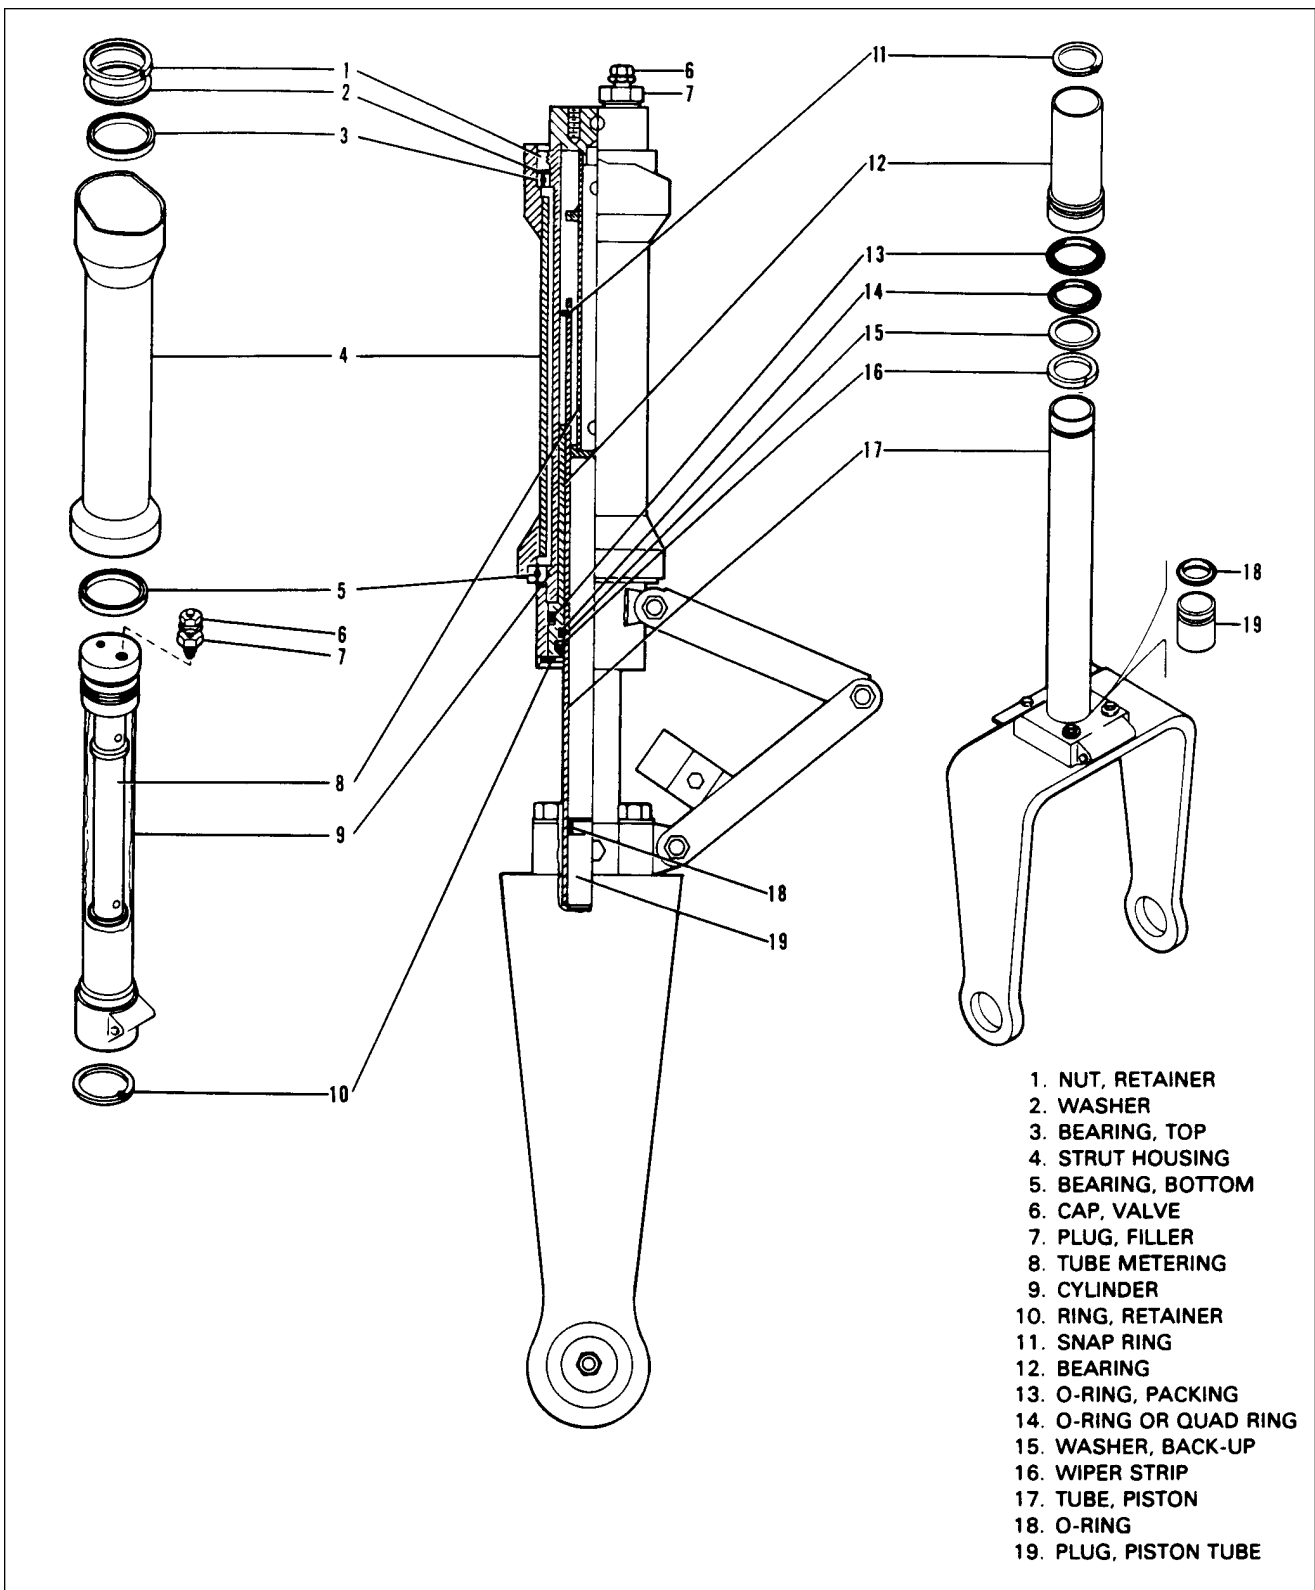

Figure 32-4. Nose Gear Oleo Strut Assembly
A. DISASSEMBLY OF NOSE GEAR OLEO (Refer to Figure 32-4.)
C. NOSE GEAR OIL ORIFICE RETAINER RING INSTALLATION (Refer to Figures 32-4 and 32-6.)
D. ASSEMBLY OF NOSE GEAR OLEO (Refer to Figure 32-4.)